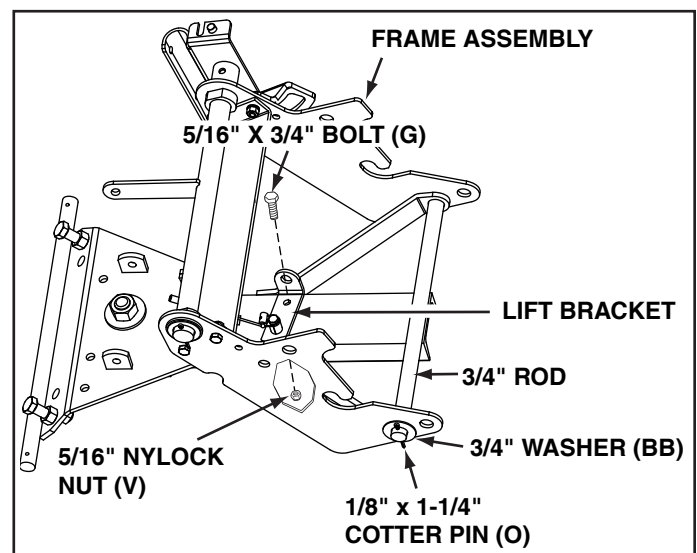

FIGURE 15
STEP 14: (SEE FIGURE 15)
- Attach the lift bracket to the right hand hole in the channel, next to the long spacer. Use a 5/16" x 3/4" hex bolt (G) and 5/16" nylock nut (V).
- Attach the frame assembly to the channel assembly. Fit one side of the frame assembly onto the 3/4" rod of the channel and then fit the other side onto the rod. Secure each side with a 3/4" washer (BB) and a 1/8" x 1-1/4" cotter pin (O).